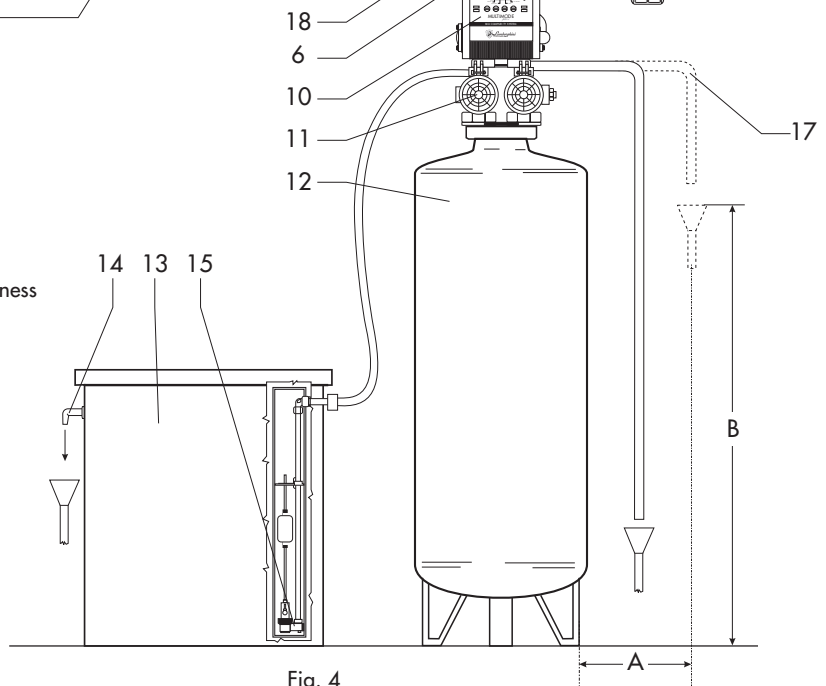

Fig. 4
- Connect up the hydraulic pipes as shown in Fig. 4, connecting the hard water inlet and the softened water outlet as shown by the arrows on the valve.